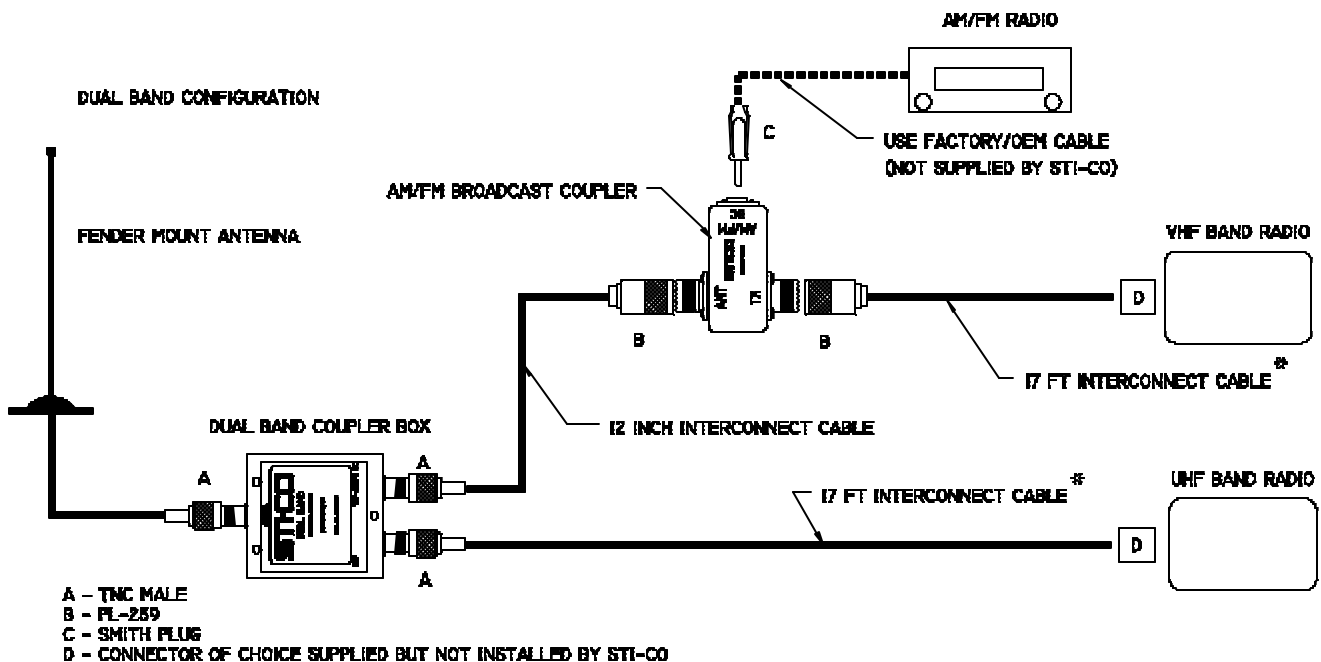

Figure 1 - VHF/UHF Dual Band Configuration
2. **Interconnect:** Refer to Figure 1 - VHF/UHF Dual Band Assembly Configuration. Do not tape or secure any feedlines to data or vehicle cables during installation.